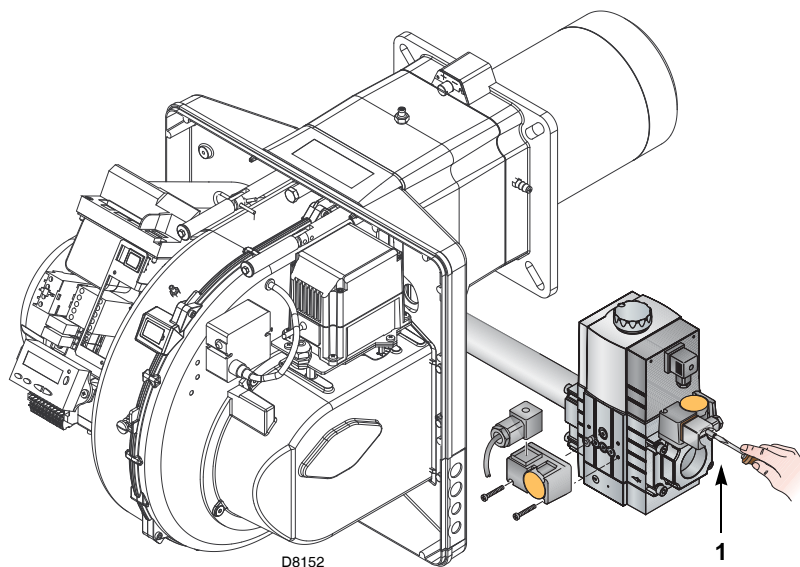

Fig. 27
- Check the gas supply pressure by connecting a pressure gauge to the pressure test point 1)(Fig. 27) of the minimum gas pressure switch: it must be lower than the maximum allowed pressure of the gas train, as shown on the characteristics label.
- Bleed the air from the piping of the gas train, connecting a plastic tube to the pressure test point 1)(Fig. 27) of the minimum gas pressure switch. Take the vent tube outside the building so you can notice the smell of gas.